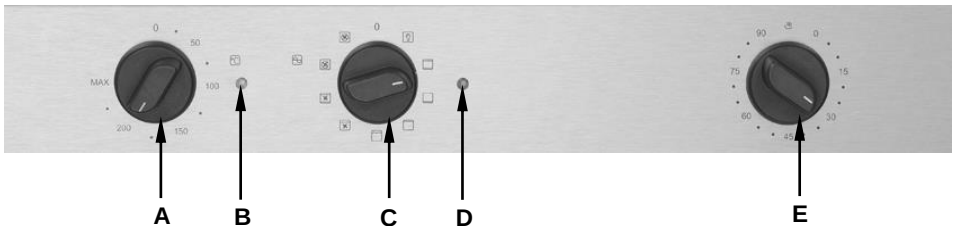

Fig. 4
- Switch the device on with the function knob (C, fig. 4) turning it clockwise to the desired setting. Follow the instruction included in section 5.2.4 **“Settings”/ Functions**.
- The interior lighting turns on and the operational control lamp comes on (D).
- Set the desired temperature (25 °C - 250 °C) with the temperature knob (A). The heating control lamp comes on (B). When the set temperature has been reached, the heating element is off and the orange heating control lamp (B) comes off.